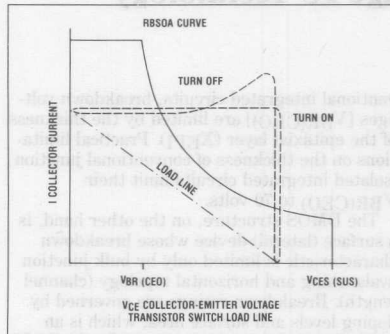

Figure 1
Figure 1 shows the typical load/line characteristics of a switch operated within the devices RBSOA and $V_{CES(SUS)}$ ratings. As shown, the load/line penetrates the RBSOA. This condition is destructive. Thus, reliable operation is limited to the $V_{BR(CEO)}$ rating of the switch, which is limited by either the vertical (X) or lateral (Y) characteristics of the structure, whichever is the lesser.